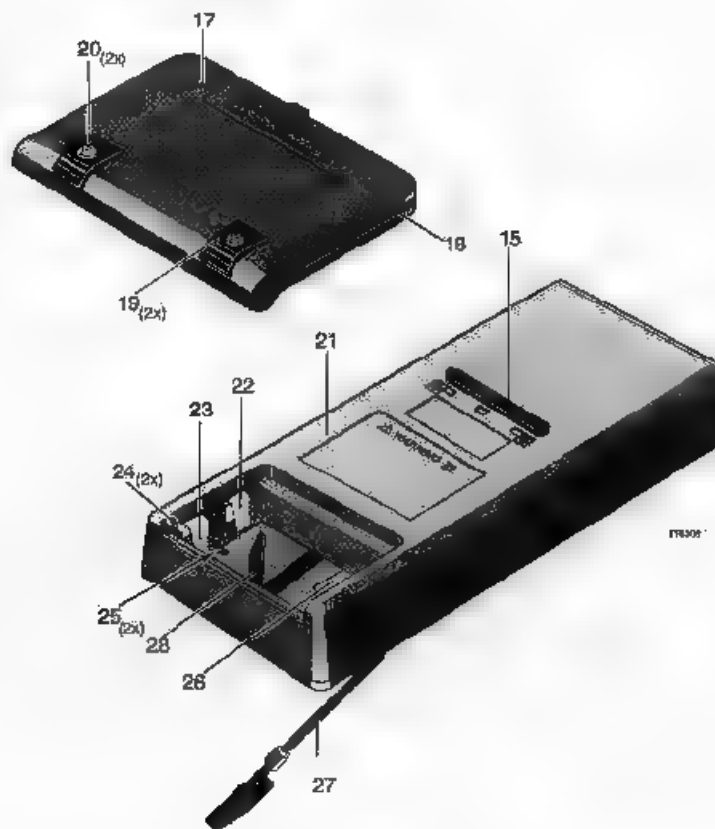

Figure 6.1 Removing the battery pack
2. The analog A2 PCB and top screening are secured to the bottom cover with two M3 Torx screws (item 30). Use a Torx screwdriver to remove the screws.
4. Pull the battery wiring plug (item 27, figure 6.1) out of the connector on the analog A2 PCB.
5. Use a Torx screwdriver to loosen the two black screws (item 13) (do not remove them) from the input unit assembly. Now the analog A2 PCB can be lifted out of the bottom cover assembly.